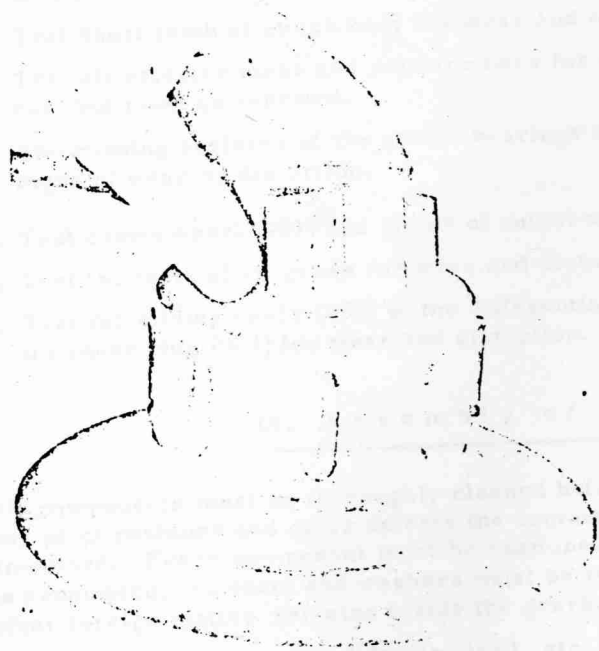

Fig. 13
Loosen fixing screws (907) and remove the crown wheel (901). Separate the casing halves (Fig. 12). Remove outer cam ring (903) and inner cam ring (904) (Fig. 13). Remove sliding pawls (905) and cage (906). The second taper roller bearing (910) should only be removed if it is damaged. If this is the case use tool set . 15 . , . 16 . and . 17 . for the withdrawal of the bearing.